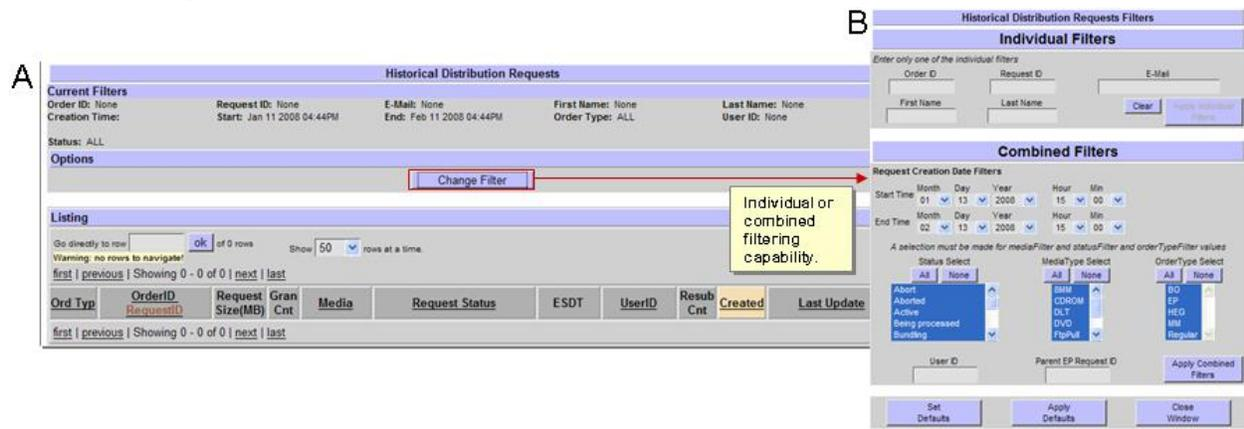

Figure 15.8-1. Historical Distribution Requests Page (A) and Filter (B)
The Historical Distribution Requests page (Figure 15.8-1, Frame A) provides the full-capability or limited capability operator the tool to view, by filtering (Figure 15.8-1, Frame B), archived distributed requests information on the OM GUI.
- 2 Click **Historical Distribution Requests [filter]** submenu option to display the **Historical Distribution Requests** page (Figure 15.8-1, Frame A).
- The **Historical Distribution Requests Filters** window (Figure 15.8-1, Frame B) displays.